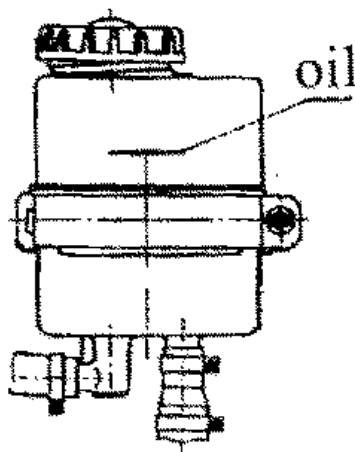

Fig.4-6
(2).Check the lubricating oil level of the steering oil tank (steering oil cylinder fully filled with the oil.)(Fig.4-6)